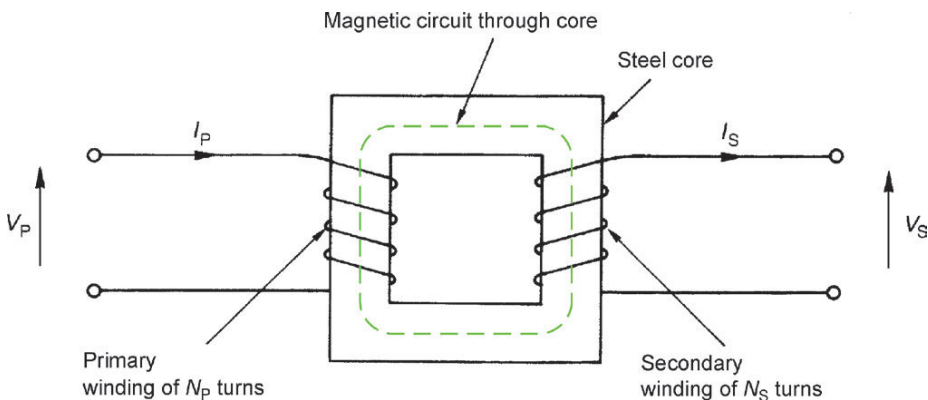

Figure 2.14 A simple transformer.
- A transformer such as that shown in Fig. 2.14 consists of two coils called the primary and secondary coils or windings, wound on to a common core. The iron core of the transformer is not solid but made up of very thin sheets called laminations, to improve efficiency.